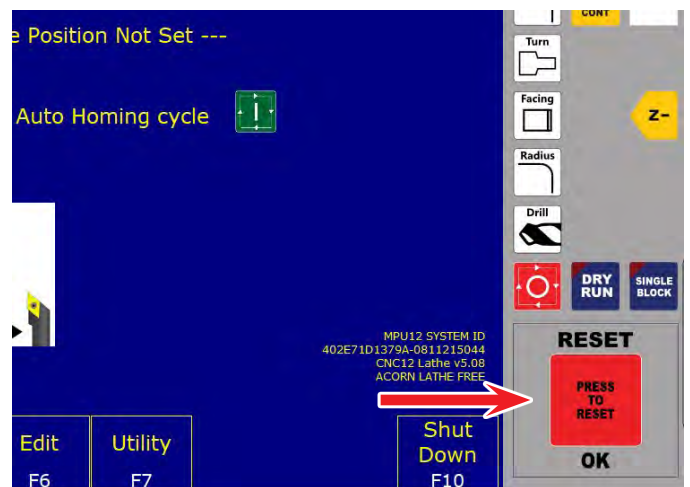

FIGURE 42
- D. Click on “Press to clear” and the boarder will turn to gray and the “4032 Reset Cleared” message will show. Again, you are now ready to home your machine (see Figure 42).